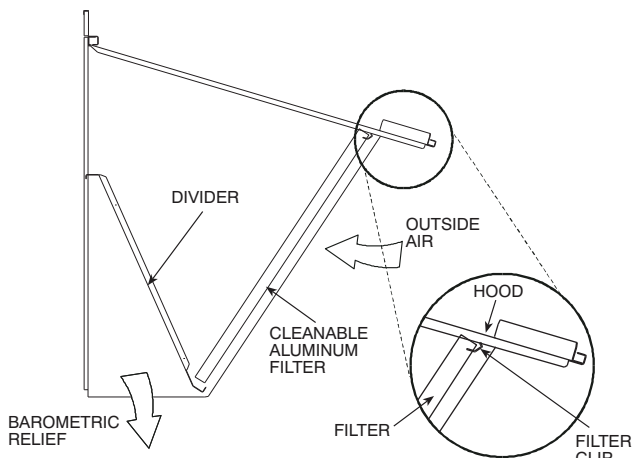

Fig. 17 — Economizer Filter Installation
6. Open the filter clips which are located underneath the hood top. Insert the aluminum filters into the bottom filter rack (hood divider). Push the filter into position past the open filter clips. Close the filter clips to lock the filters into place. See Fig. 17.